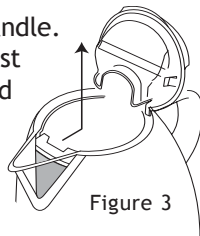

Figure 3
3. Remove the Scale Filter from inside the Kettle (located just inside the spout). Firmly push the top of the Filter forward to release, then pull straight up and out. (See Figure 3.) Rinse under running water and use a soft brush if necessary. (Do not use a metal brush.) Do not wash in dishwasher. Place Scale Filter back into position.